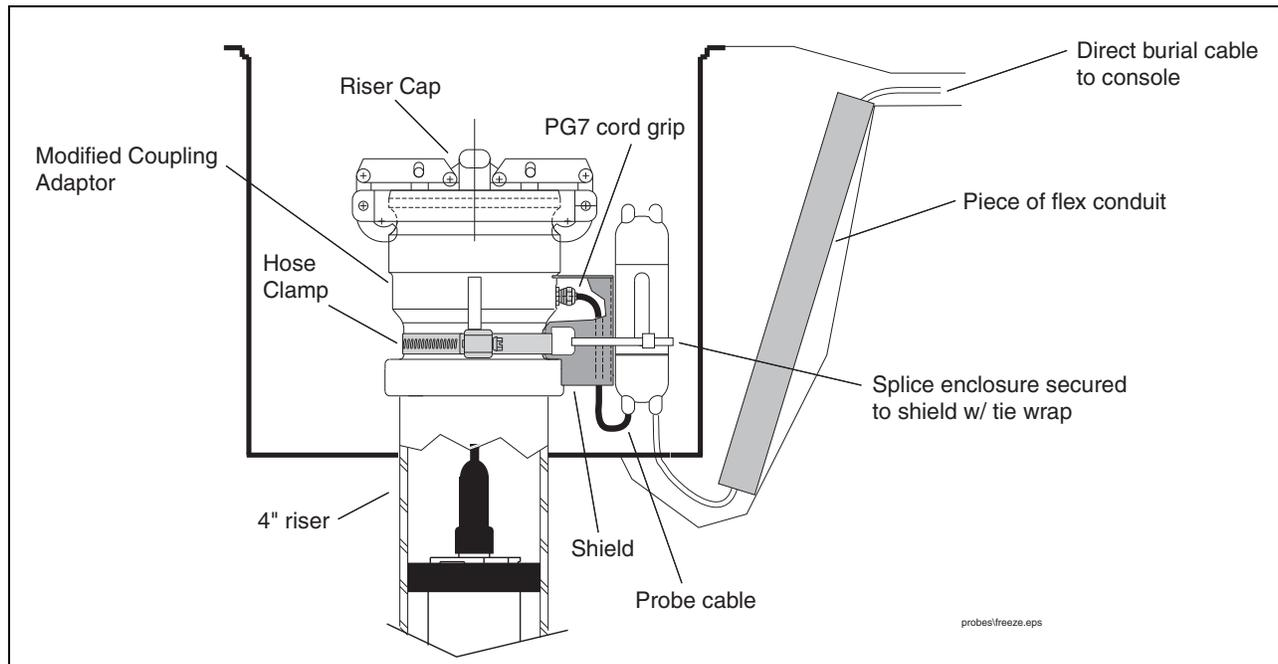

Figure 13. Mag probe vapor extractor riser installation - w/ coupling adaptor
12. Position the Shield-Fitting over the PG7 cord grip and secure with the hose clamp (see Figure 13 on page 15).